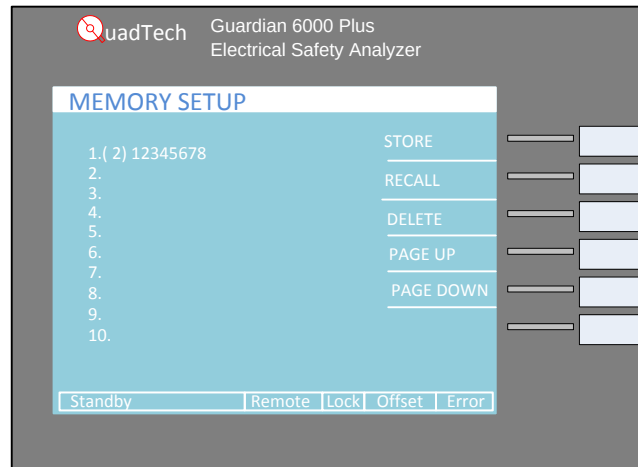

Figure 15: QuadTech Guardian 6000 Plus / Chroma 19032 memory setup
5.4.1. From the MAIN MENU, press the **MEMORY** soft key. The MEMORY SETUP screen will be displayed (Figure 15)